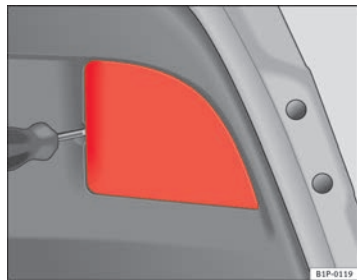

Fig. 172 Lights on the tailgate
- Use a screwdriver to remove the cover ⇒ fig. 172.